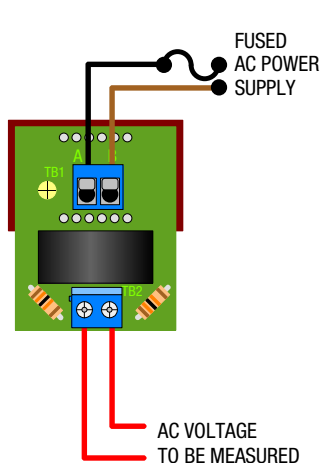
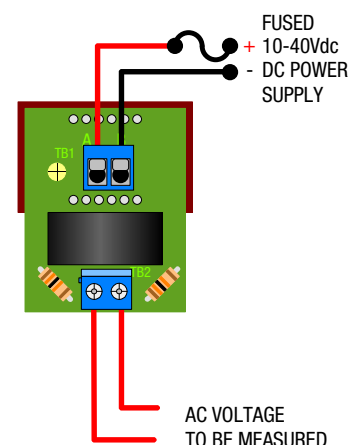

Figure 1A.
Figure 2.
- Power Supply Polarity, Fusing, and Grounding:** As shown in Figures 1A, 1B, and 2, the two power supply inputs, TB1-A and TB1-B, on ac-powered DMS-20RM voltmeters ("AC1" suffix) are not polarity sensitive, that is, they have no "AC LO" or "AC HI" designations. Also, ac-powered models do not include or require a connection to earth/chassis ground. DC-powered models ("-DC2" suffix) are reverse-polarity protected, and must be connected as shown in Figure 2 for proper operation.